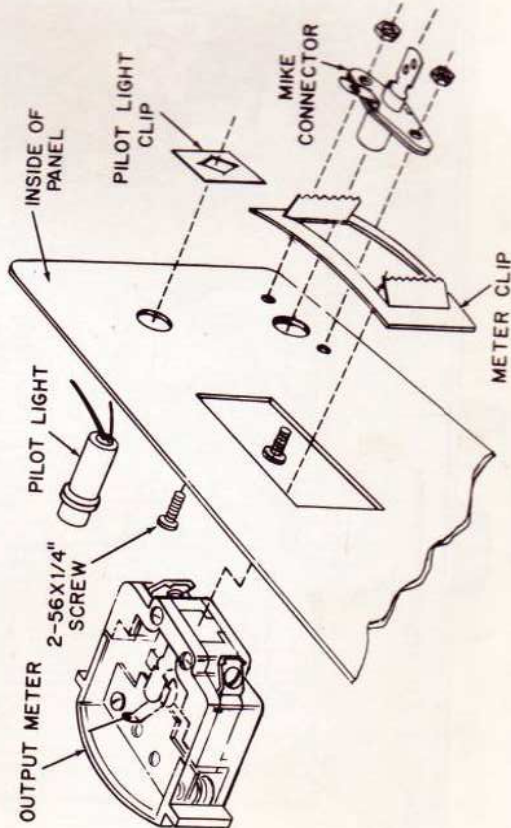

FIGURE 16
SEE FIGURE 16
- ☑ Power output meter. See Figure 16. Insert meter through hole on front side of front panel. Take rectangular mounting clip and slip over meter body from backside of panel, make sure the meter is in correct position. Do not mount meter upside down. Place meter face on soft surface and push clip down with fingers until meter is secure.
- ☑ Red, flat-faced pilot light. See Figure 16. Insert light through hole on front side of front panel. Slip small square mounting clip over the light body. Place face of light on soft surface, and push clip down with screwdriver till light is secure.